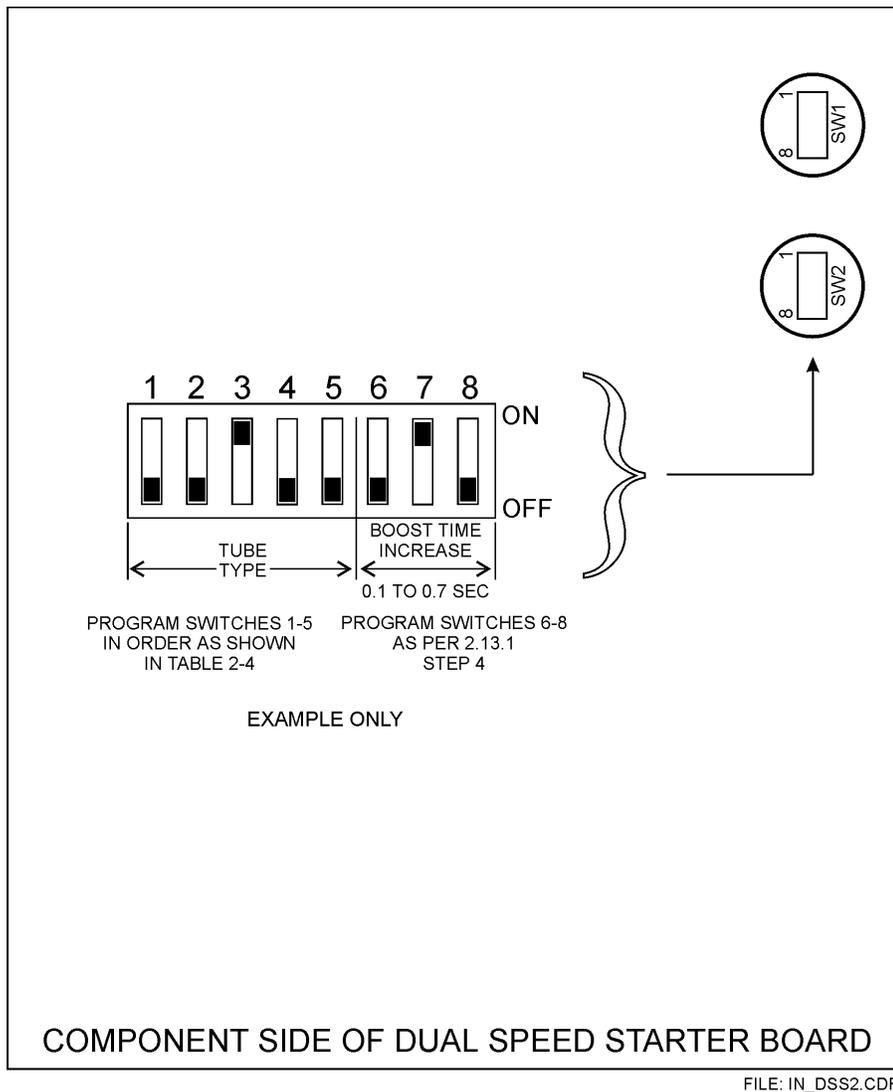

Figure 2-13: DIP switches on dual speed starter
4. Refer to figure 2-13. Set the DIP switch SW1 (for tube 1) with the binary code for the selected tube. The binary code shown in the table programs the tube type (housing and insert), for example housing type Varian Sapphire with standard "R" stator and inserts per table 2 in Supplement 746026, which follows chapter 2, requires SW1-1 to be set ON, SW1-2 OFF, SW1-3 ON, SW1-4 OFF and SW1-5 OFF. This programs the voltages, brake times, and boost times in table 2.
5. The example DIP switch setting shown in figure 2-13 is for the example in step 4 with an incremental increase in boost time of 200 ms.